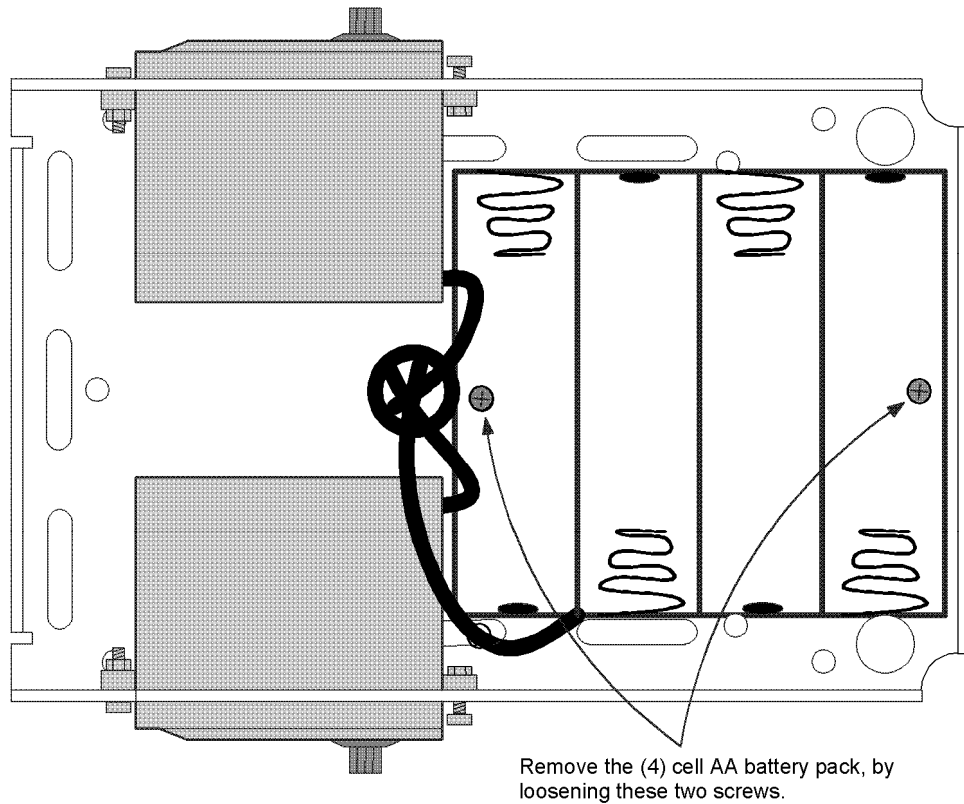

Figure 1
Step 4. Turn the chassis over so that it is oriented as shown below. Remove the (4) cell AA battery holder by loosening the two flat-head screws and nuts that attach it to the chassis (Figure 1).